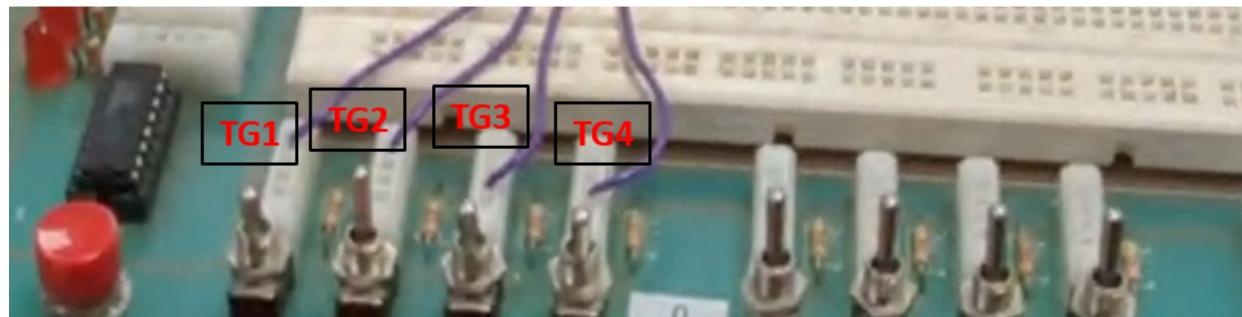

Figure 3: Toggle switches in DAQ(hardware) control mode
- To enable DAQ control mode, set toggle switch 2 in UP(0) state, as shown in toggle switch 2 (TG2) of Figure 3. The waveform parameters can then be adjusted by the toggle switches and potentiometers.